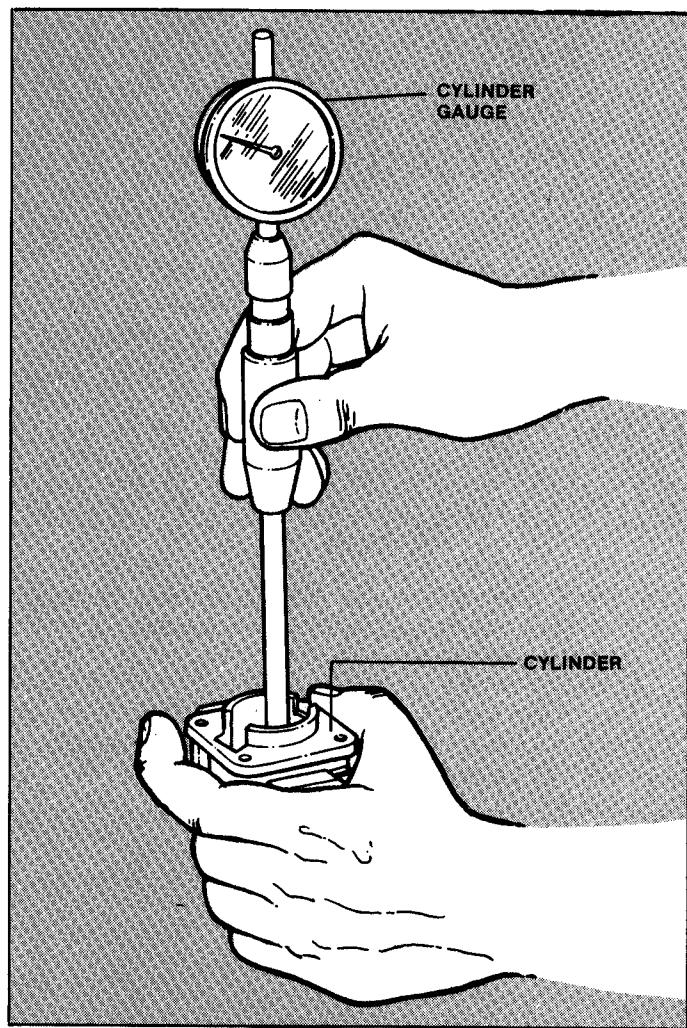

FIGURE 2.13
D. Measure the cylinder bore with a cylinder gauge as shown in Figure 2.13.